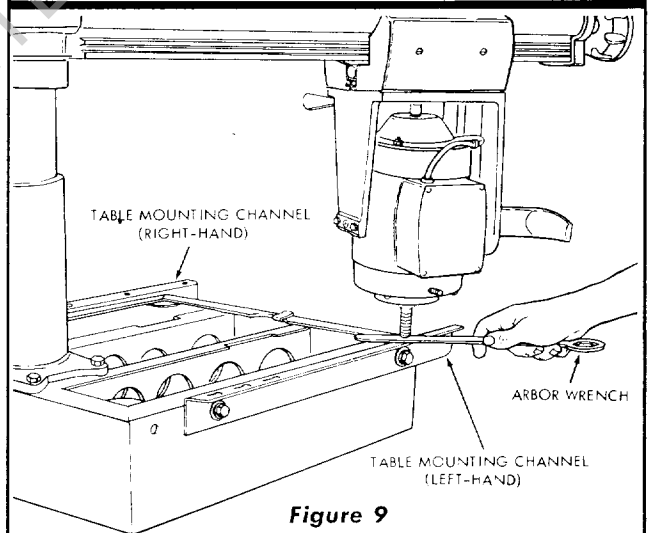

Figure 9
- i. Remove the arbor wrench, move the carriage out near the end of radial arm and swing the arm until end of motor shaft is over the table mounting channel, directly over the front mounting channel attaching screw. (See figure 9.) Tap the table mounting channel upward or downward until the end of motor shaft just touches the arbor wrench, held between the end of motor shaft and top of channel, as in the preceding step. (See figure 9.)